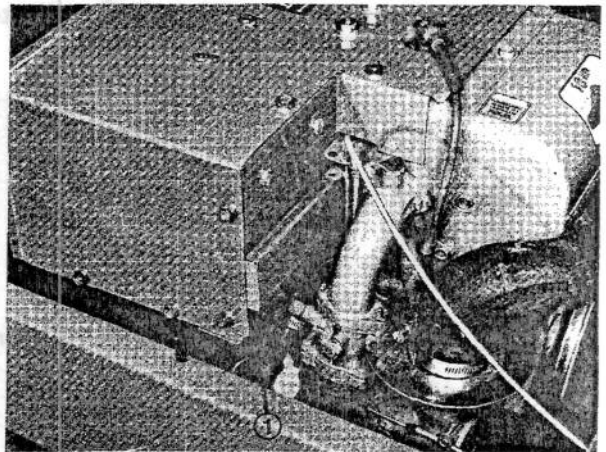

Figure 86
2. Disconnect engine ground connectors at right side of frame (Fig. 86). Hold metal end of the high tension wire about 1/4 inch (6 mm) away from the engine head and crank the engine. If a bright, blue spark is noticed, proceed to step 3. If spark is not evident, the problem is in the engine ignition system. Push ground connectors back together.